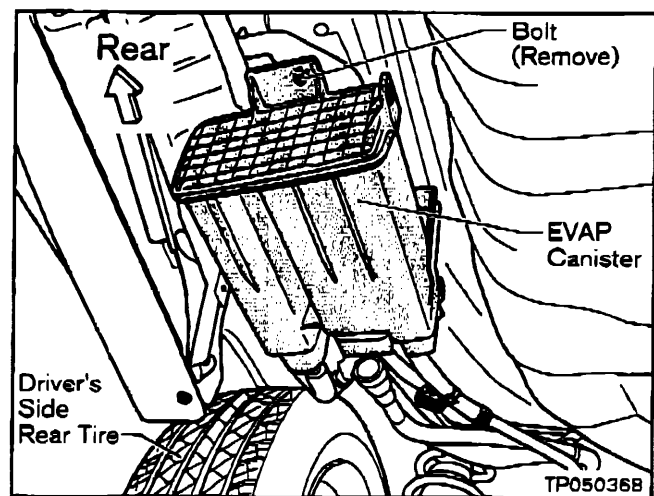

Figure 11
3. Remove one Bolt and slide the EVAP Canister rearward to remove it from the vehicle (see Figure 11).